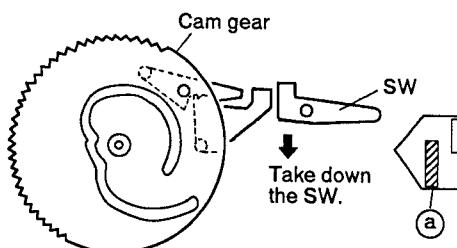
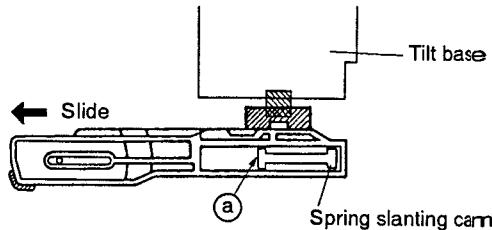

Fig. 7
Fig. 8
- ① Set the cam gear as shown in the Fig. 7 and take down the SW.
- ② Engage the ② of the spring slanting cam with ②'.
- ③ Set the position of the projection tipped of the tilt base is on the edge of the spring slanting cam. And slide the spring slanting cam in the direction of arrow. (See Fig. 8)